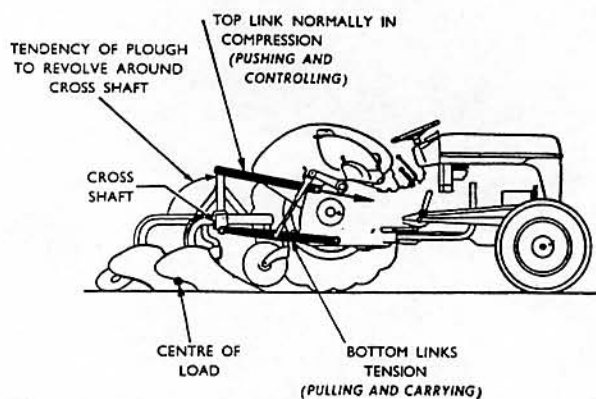

FIG. 14
Manual operation is effected by the separate hand levers as explained on page L.1; the **Automatic** source of control is provided for one system by a cam which rotates with the lift shaft as the lower links rise or fall; and for the other system by the draft reaction of the implement through the top link measured by a control spring—refer to Fig. 14.
Implement draft pressure (see Fig. 14) against control spring plunger (Q) moves control rod (O) forward and pivots cam (L) forwards about roller (V) on the draft control lever shaft. This action pivots lever (M) about guide rod (N) and operates valve lever (G) to move the control valve to neutral. Once the valve attains the neutral position further penetration of the implement is prevented—the implement draft balancing the degree of control spring compression necessary to centralise the valve. Should, for instance, surface undulations cause a temporary increase or decrease in working depth and therefore in the compression force against the control spring, the position of cam (L) will alter to move the control valve into intake or discharge to re-establish the original draft setting.